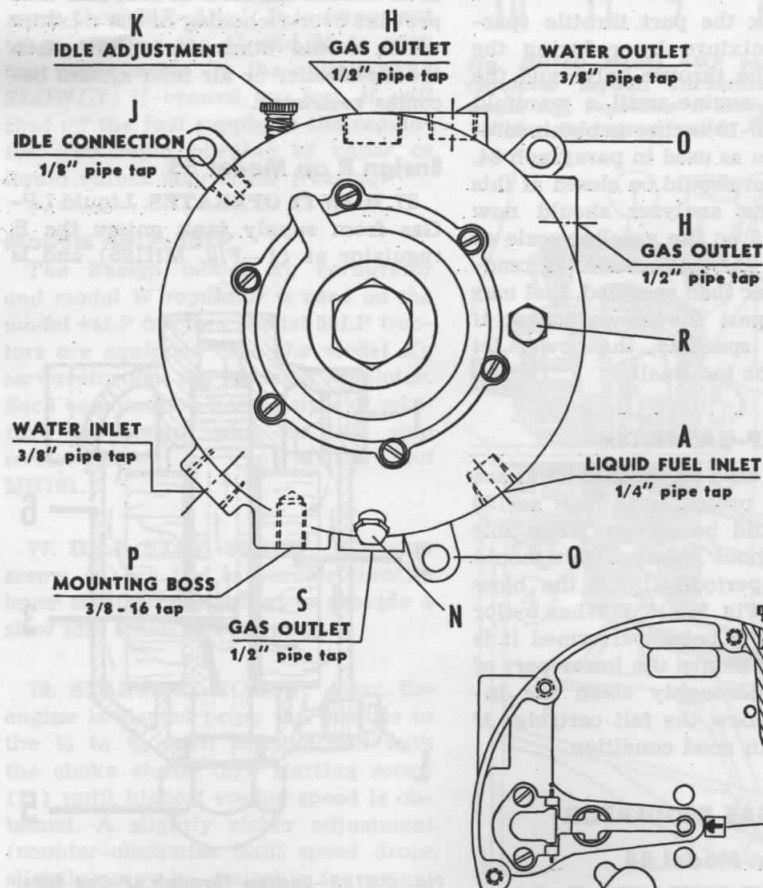

Fig. MH164—Ensign model W regulator as used on Massey-Harris model 44LP.
**86. HOW IT OPERATES.** Fuel from the supply tank enters the regulating unit inlet (A—Fig. MH164) at a tank pressure of 25 to 80 psi and is reduced
90. Remove the unit from the engine and completely disassemble using Figs. MH164 and MH165 as references. Thoroughly wash all parts and blow out all passages with compressed air. Inspect each part carefully and discard any that are worn.